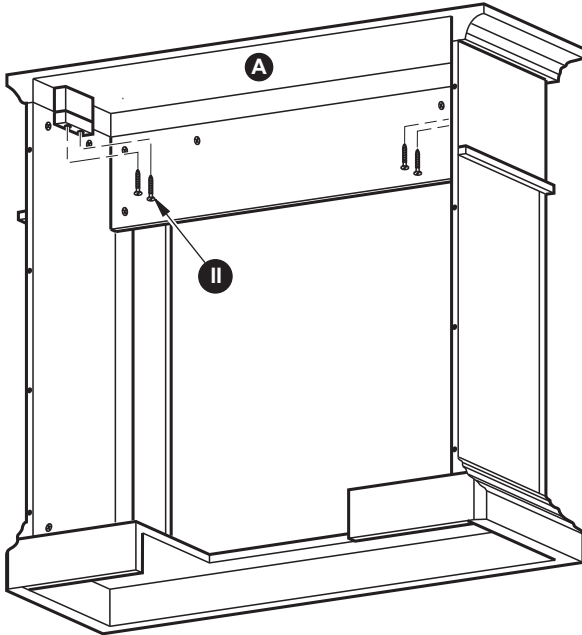

Figure 32
5. Fasten the wooden support brackets attached to the top of the mantel assembly to the Top (A) with 4) ST4 Screw 1 $\frac{9}{16}$ " (II) as shown in Figure 32.